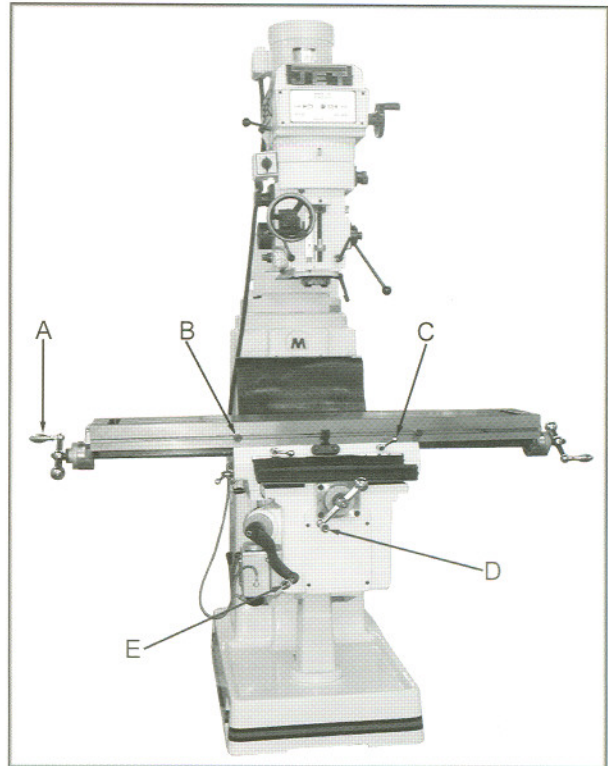

Fig. 13
- A. **Longitudinal Movement** (A, Fig. 13) - handles located on opposite ends of the table; controls the X-axis.
- B. **Stops** (B, Fig. 13) - located on the front of the table; controls how far the table travels in either direction.
- C. **Table Locks** (C, Fig. 13) - located on the front of the saddle used for locking the table in position.
- D. **Cross Feed Movement** (D, Fig. 13) - located on the front of the knee; controls the Y-axis.
- E. **Knee Handle** (E, Fig. 13) - located on the corner of the knee; controls the Z-axis.